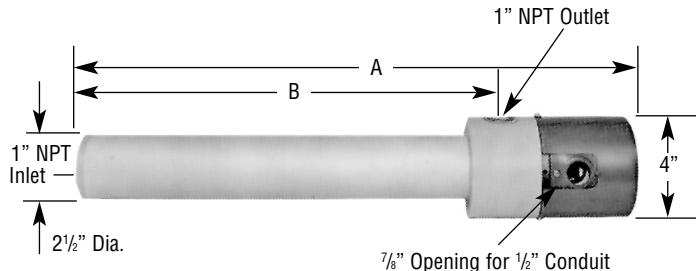

Figure 1
- Make piping connections to either new or existing plumbing at the 1" x 11 1/2" N.P.T. threaded inlet and outlet as shown in Figure 1.